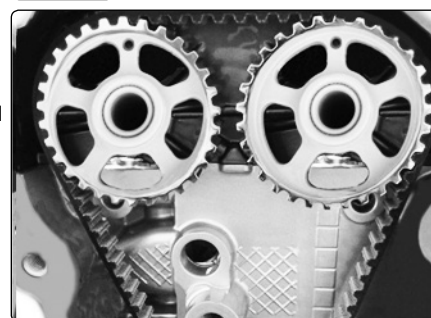

fig.2
- 5.1.3. Remove the flywheel locking tool, refit the crankshaft pulley bolt and turn the crankshaft in the direction of rotation to TDC on cylinder number one, the camshaft timing datum holes should be at the 12 o'clock position. (fig.2)